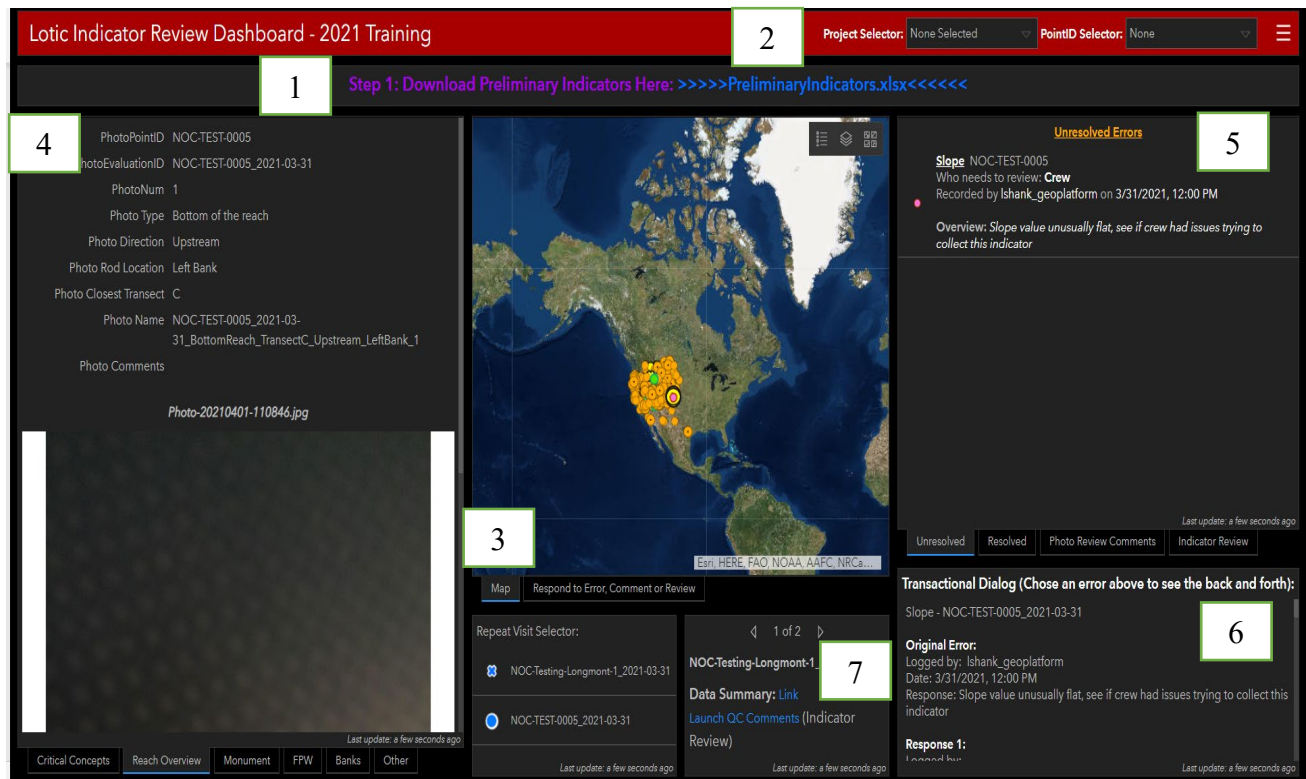

Figure 5. Screenshot of the Indicator Review Dashboard. Numbers correspond to dashboard key components listed above.
- Prior to reviewing data from the crew's first trip watch the QC webinars which covers detailed instructions on how to use the Indicator Review Dashboard. Only general instructions are provided below. The Indicator Review Dashboard has the following key components (Figure 5):
- Locate and click the “Download Indicators” link (Figure 5, Label #1). In the downloaded preliminary indicators excel file, filter the data by Project and then sort by EvaluationID.
- III. Quickly review field comments from the crew and the “Transactional Dialog” for any field errors. Crew comments and data statistics can be located in the data summary PDF. This document is linked on the Indicator Review Dashboard (Figure 5, Label #7) once a PointID has been specified (Figure 5, Label #2). Be sure to select the correct visit using the ‘Repeat Selector Panel’ if the point has been visited more than once. Additionally, all prior QC comments can be found in the errors panel on the dashboard (Figure 5, Label #5 & #6). While reviewing comments and field resolved errors consider if any comments or errors warrant omitting or flagging an indicator value as suspect?
- IV. Review the photos (Figure 5, Label #4) to get a feel for the nature of each reach. For example, is the reach high versus low gradient, confined versus unconfined, or highly impacted by management or unaltered?
VII. To record the outcomes of the above review, open the QC Comments form using the Dashboard (Figure 5, Label #7) after selecting your point. Both positive and negative outcomes need to be recorded. If no errors were found, mark that everything looks good and submit. Identified errors should be recorded individually to ensure that all data decisions are properly tracked and implemented. For each error choose the method the issue is most associated to, mark whether to flag, omit or edit the data, and provide a comment and reasoning. If follow up is needed to resolve the error still record it as an error, use the “Flag” category, and make clear comments. Examples:
- I. Review photos (Figure 5, Label #4) and reach coordinates displayed on the dashboard map (Figure 5, Label #3) to determine if sampling conditions and reach placement were similar or if major changes occurred at a reach.
- VI. To record the outcomes of the above review, open the QC Comments form using the Dashboard (Figure 5, Label #7) after selecting your point. Both positive and negative outcomes need to be recorded. If no errors were found, mark that everything looks good and submit. Identified errors should be recorded individually to ensure that all data decisions are properly tracked and implemented. For each error choose the method the issue is most associated to, mark whether to flag, omit or edit the data, and provide a comment and reasoning. If follow up is needed to resolve the error still record it as an error, use the "Flag" category, and make clear comments. Examples: